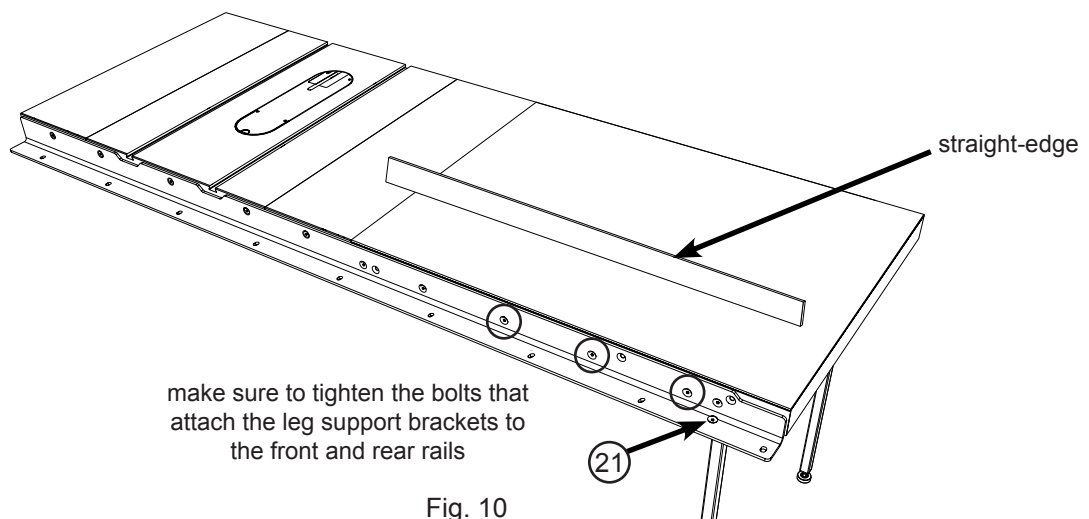

Fig. 10
14. Install an M8 x 40 countersunk socket head bolt (17) through the one remaining front rail hole and into the corresponding hole in the front edge of the extension table for a 36" fence system, or install M8 x 40 countersunk socket head bolts (17) through the three remaining front rail holes and into the corresponding holes in the front edge of the extension table for a 52" fence system (see the circles in Fig. 10). Install an M8 x 40 countersunk socket head bolt (17) through the rear rail and into the corresponding hole in the rear edge of the extension table for a 36" fence system, or use three M8 x 40 countersunk socket head bolts (17) for a 52" fence system. Place an M8 washer (14) and an M8 lock nut (16) on each bolt and hand tighten.
Use a straight-edge to level the front edge of the extension table to the saw table (see Fig. 10). You may have to pull up or push down on the extension table to level it. Once the front edge of the extension table is level, use a 5 mm hex key and a 13 mm wrench to fully tighten the nuts on the bolts along the front rail. Repeat the process to level the rear edge of the extension table. Also fully tighten the bolts that attach the leg support brackets to the front and rear rails (bolts (21)).